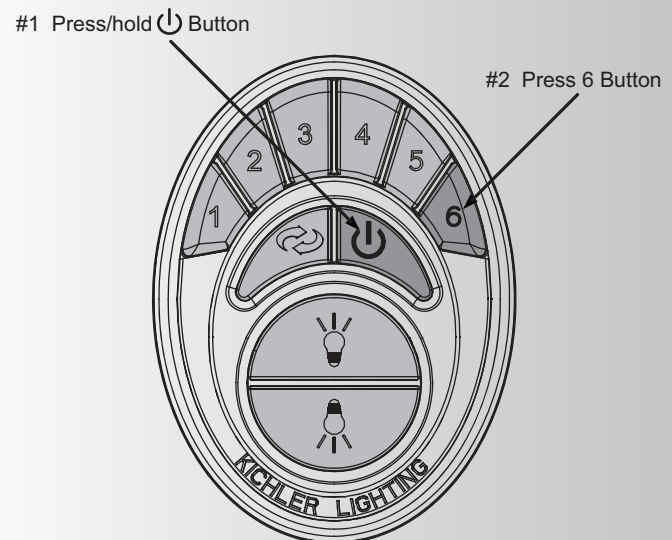

Fig. 20
4. Turn the power on, press and hold the (⏻) button until the ceiling fan light blinks twice (Figure 20)
6. After the ceiling fan light blinks twice, press and release the High Speed (6) Button. Let the ceiling fan run for a minimum of 90 seconds (1 ½ minutes). The control system will do another self check, initialize all operational functions and complete the programming process (Figure 20).